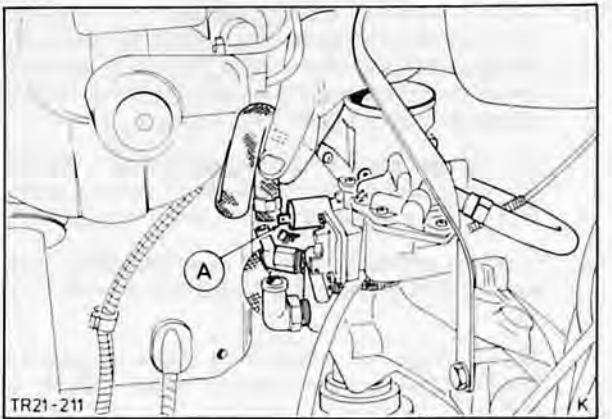

Fig. 21. Brake servo vacuum hose ('A' engine)
21. Connect brake servo vacuum hose to inlet manifold and attach lead to idling shut-off valve, Fig. 21.